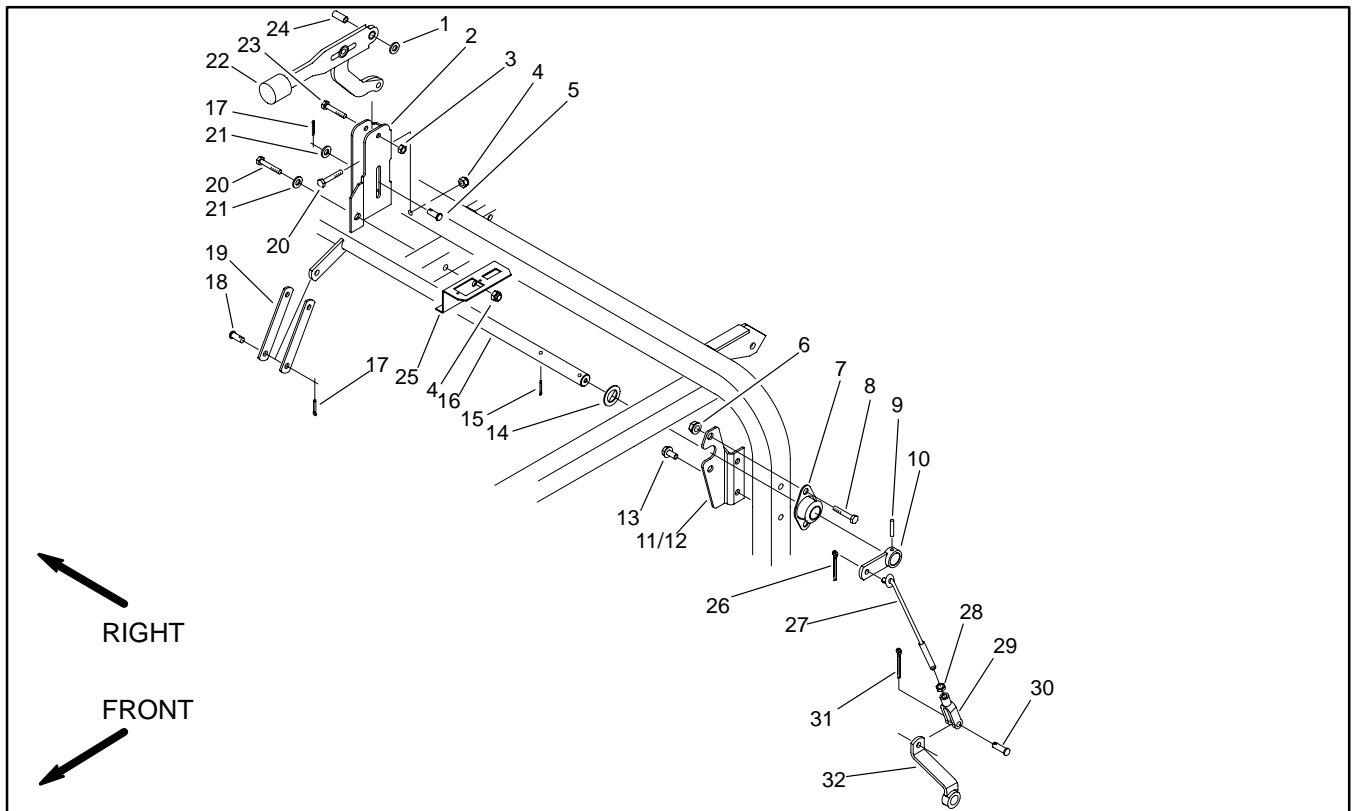

Figure 12
2. Remove and replace parts as necessary to repair brake linkages (Fig. 12).